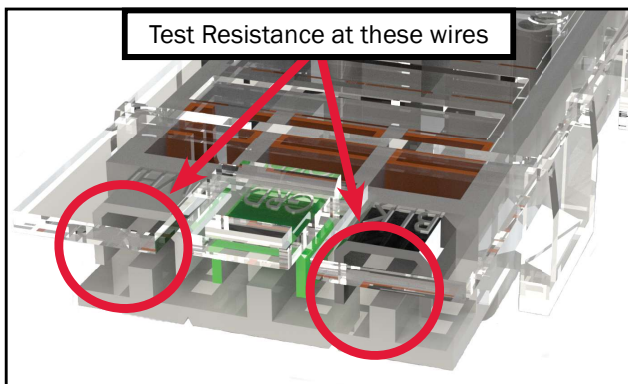

Figure 37
- Resistance should be between approximately 11-13 ohms. If there are less than 11 ohms of resistance, the electric element can cause the coach-side breaker to trip (reference Figure 37 below).